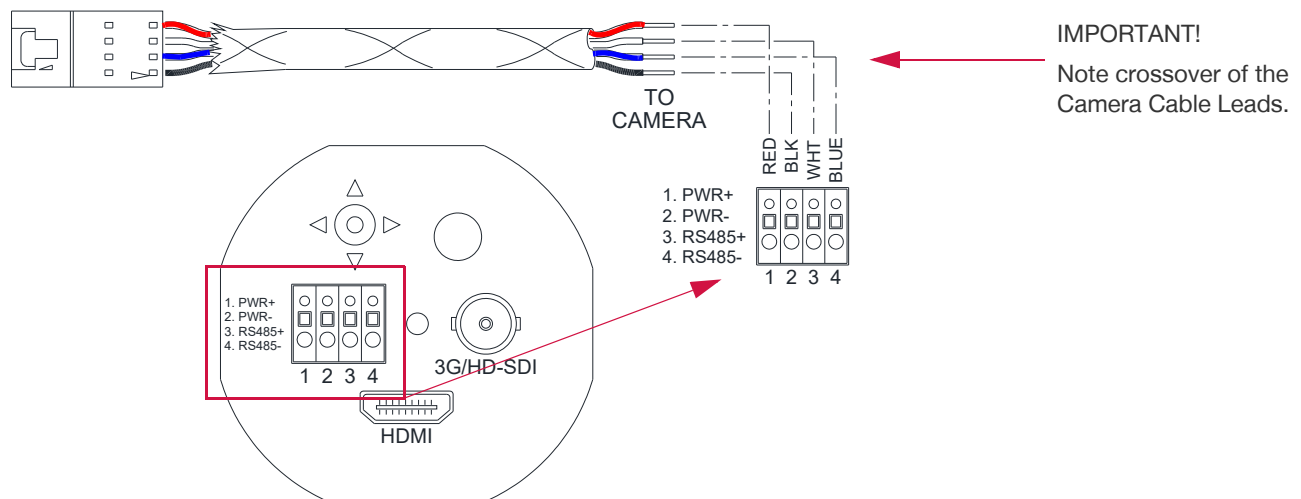

Figure 3-21: Removing/Installing GCLT Camera Cable
- Step 7. If you need to replace the camera, you will need to remove and re-install the Camera Cable lead into the new camera (**Figure 3-21**):